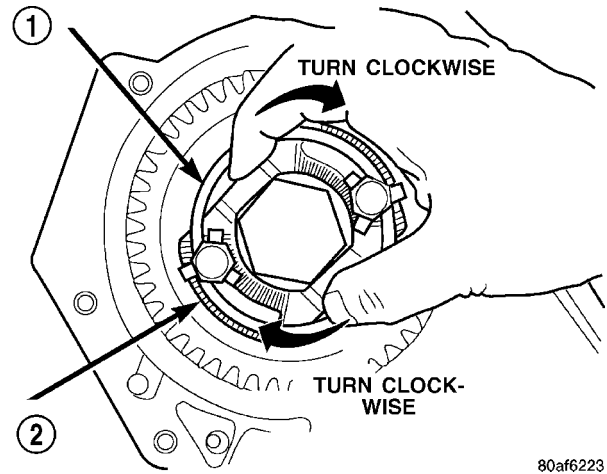

Fig. 108 Turn Stirrup Clockwise Against Bolt Flats
(21) Rotate stirrup clockwise against flats of retaining bolt (Fig. 108).